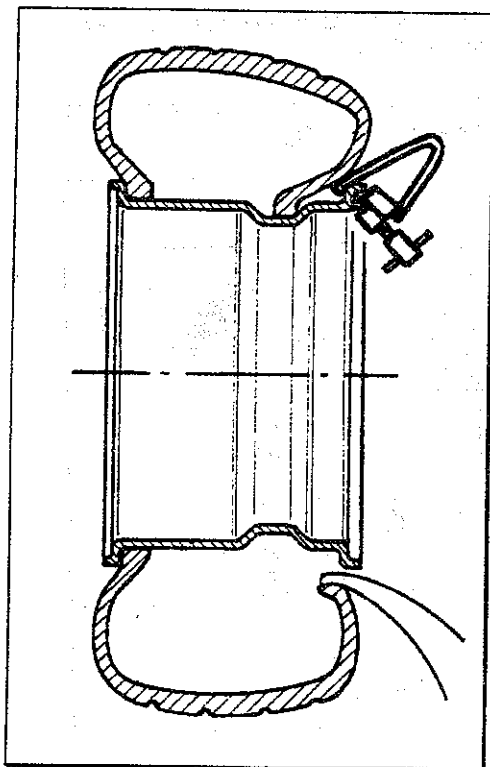

Fig.37
4. Rotate the chuck clockwise until the tire is completely mounted. Ensure that outer bead descends into the drop center when the clamp is opposite to the mount/demount tool (Fig.37).